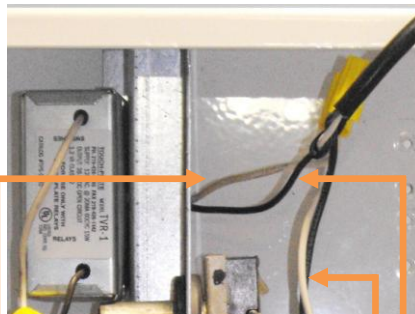

Figure 4.4
- iv. Wire(s) from the Breaker Panel to the Transverter (TVR-1 / TPS-0120)-Figure 4.4
- v. Wire(s) from the Breaker Panel to the Lighting Load-Figure 4.4